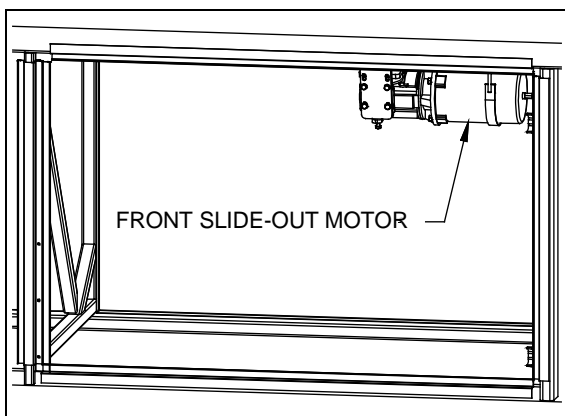
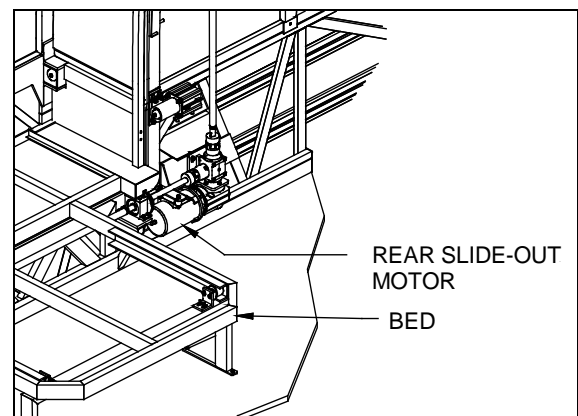

FIGURE 13 : FRONT SLIDE-OUT MOTOR
FIGURE 14 : REAR SLIDE-OUT MOTOR INSIDE COACH
5. To move the slide-out, use a ½" hexagonal socket on the back of the slide-out motor (refer to figure 13 and figure 14 for the motor locations).